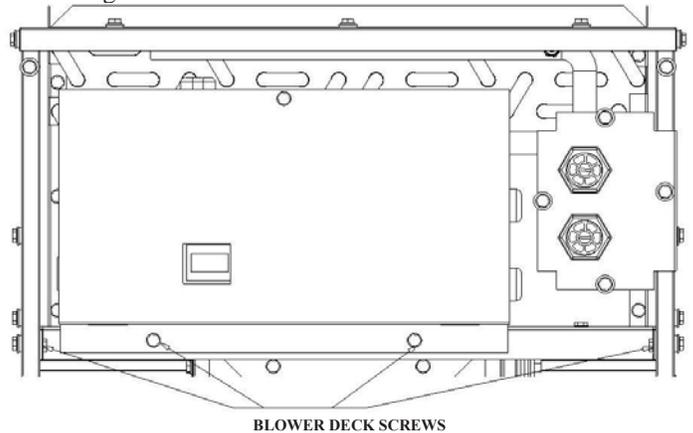

Figure 25: Blower Mounting Plate Screw Locations
- Remove the two screws on the right side and the two screws on the left side of the blower mounting plate. Refer to Figure 25 for screw locations.